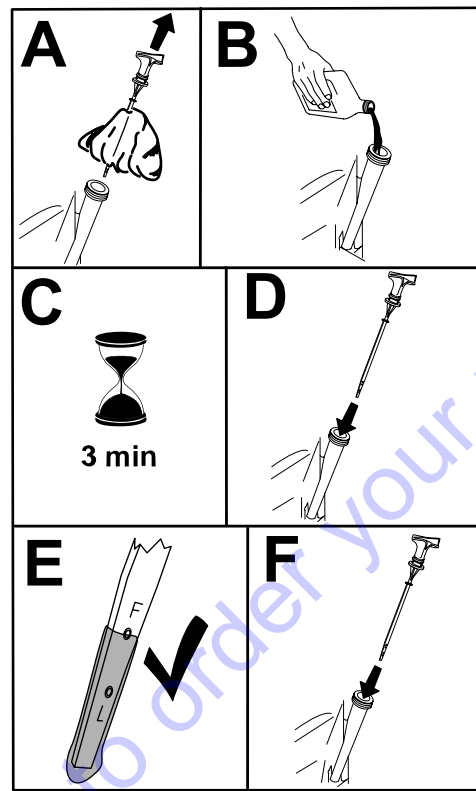

Figure 24
5. Slowly pour approximately 80% of the specified oil into the filler tube (Figure 24).